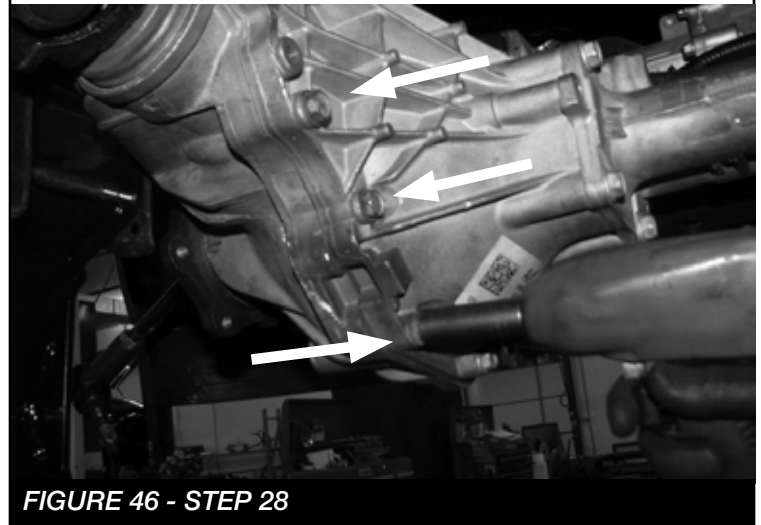

FIGURE 46 - STEP 28
28. Remove the 3 factory differential housing bolts and discard. **SEE FIGURE 46**